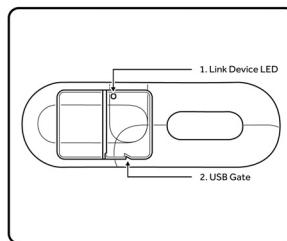

Figure 2. PillCam Genius link device LED and USB gate
5. After removing the PillCam Genius link device from the protective case, note the device LED appears constant green. Place the PillCam Genius link device next to the protective case. Refer to Figure 2 for the location of the PillCam Genius link device LED light.